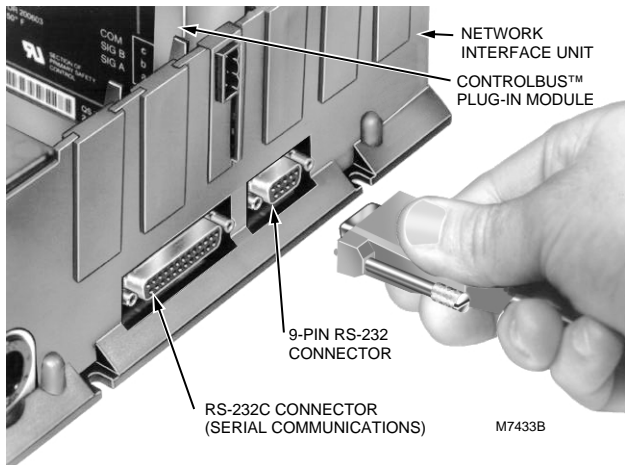

Fig. 4. Modem insertion, Network Interface Unit.
9. Connect the serial port of the modem to the 9-pin RS-232 connector of the Network Interface Unit (see Fig 4).